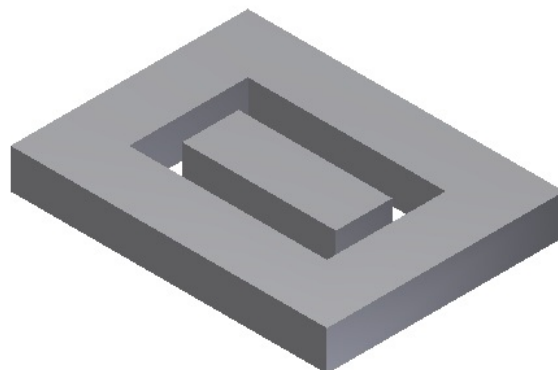

Figure 14-35 Assembly after creating the Inner Plate
- f. Add the **Mate** constraint between all inner faces of the groove in the Outer Plate and the outer faces of the Inner Plate. The size of the Inner Plate automatically changes in order to adjust inside the Outer Plate, refer to Figure 14-35.
You do not need to add dimensions to the Inner Plate as it is an adaptive part. The assembly after creating the Inner Plate is shown in Figure 14-35.